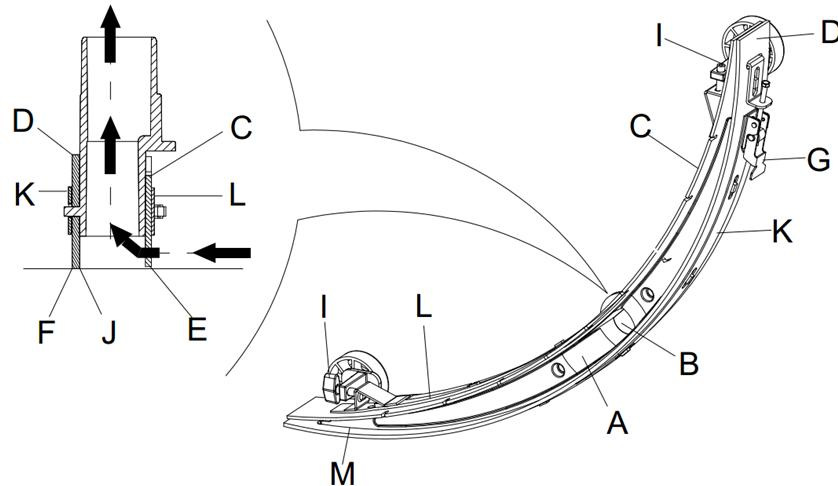

Figure 15
2. Press the power switch (41) to the “O” position to turn off the machine.
3. Unscrew the fixed handle (16) of the squeegee; take off the connector connecting the Recovery Vacuum tube of the squeegee, and take off the squeegee.
4. Use the squeegee lifting handle (14) to lift the squeegee support frame.
5. Clean the squeegee (Figure 15). Clean in particular the groove (A, Figure 15) and the dirt and fragments on the Vacuum tube. Check if the front squeegee blade (C) and the rear squeegee blade (D) are intact, and if there are broken edges and cracks. Change them if necessary (refer to the steps in the following section).
1. Following the methods related in the previous section clean the squeegee (Figure 15)
2. Check the edge (E, Figure 15) of the front squeegee blade and the edge (F) of the rear squeegee blade (D). On the whole length, they should be on the same level. Otherwise, adjust their heights through the following procedure.
- Loosen the clip (G) to let the rear squeegee blade (D) separate from the bracket (M) for the adjustment of the position of the squeegee. After the adjustment, lock the clip once again.
- Loosen the screw on the handle (I) to adjust the front squeegee blade (C); tighten the handle screw after adjustment.
3. Check if the front squeegee blade (C) and the rear squeegee blade (D) is intact and if there are broken edges and cracks. If necessary, change them according to the following ways. Check the front edge of the rear squeegee blade (J) whether it has been worn. If worn, it can be installed upside down (the top edge is required to be intact). If the top edge is also worn, change it by following the procedure below:
- Loosen the clip (G) to let the pressure blade separate from the bracket (M), take off the clip